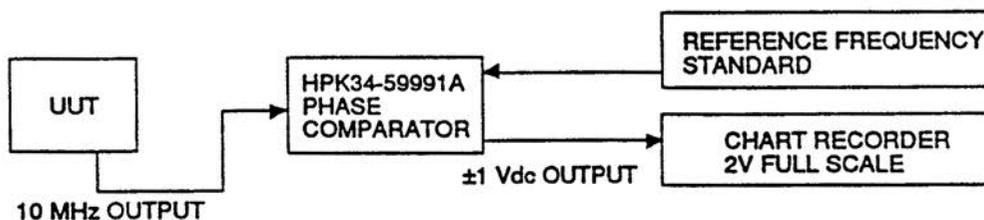

Figure 4-2. Frequency Offset Test & Long-term Stability Test Configuration
- (1) Connect the Unit (UUT) and the test equipment as illustrated in Figure 4-2. (As an alternative, the HP5371A may be used to measure frequency offset. Contact a HP field engineer for details.)
- (2) Adjust chart recorder pen position to center scale for 0 volts input.
- (1) Connect the UUT as shown in Figure 4-2.
- (2) Apply dc input power to the UUT.
- (3) Allow at least 1 hour for the UUT to stabilize. Measure and record the output frequency offset per Section 4.3.2, Step 4.
- (4) Disconnect input power to the UUT for 24 ± 2 hours.
- (5) Apply dc input power to the UUT.
- (6) After one hour of operation, measure and record the output frequency offset per Section 4.3.2, Step 4.
- (7) Determine the absolute value of the difference between the offsets marked in Step 3 and Step 6. The difference must be $\pm 2E-11$.
- (1) Connect the equipment as shown in Figure 4-2.
- (2) Per Section 4.3.2, Step 4, compute and record the fractional frequency offset every 24 hours over a period of 15 days.